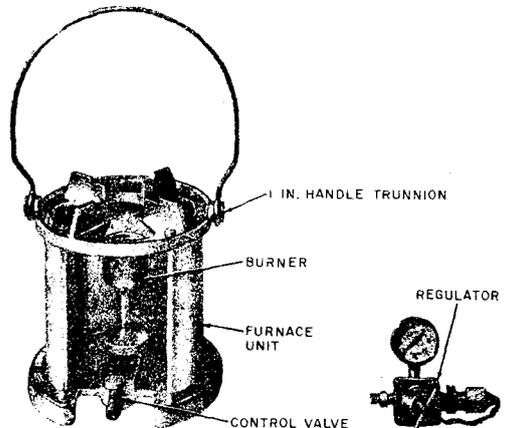

Fig. 1 — D Propane Furnace
2.01 The D Propane Furnace consists of a burner, furnace unit (includes handle, top, body, and base), regulator (includes regulator, gauge, and dust cap), and a control valve. The entire unit weighs about 15 pounds. Fig. 1 illustrates the D Propane Furnace.